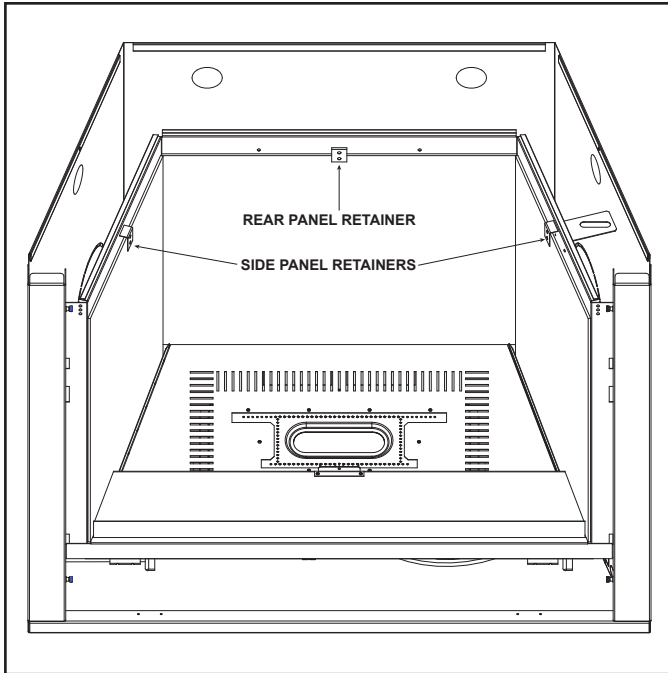
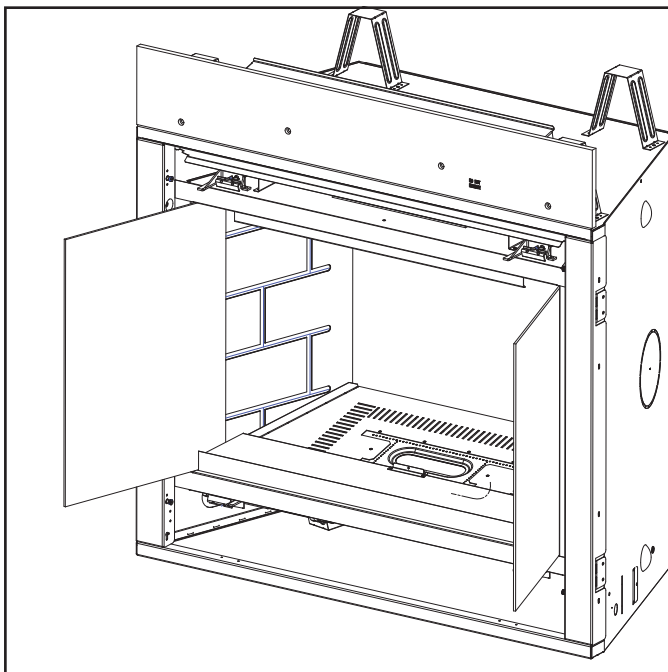

Figure 4.3 Remove Glass Panel Retainers
Figure 4.4 Glass Panel Removal
2. Remove the side glass panel retainers. See Figure 4.3. Slide the side glass panels out of the appliance as shown in Figure 4.4.
3. Remove the rear glass panel retainer, shown in Figure 4.3, and lift the rear glass panel out of the appliance.